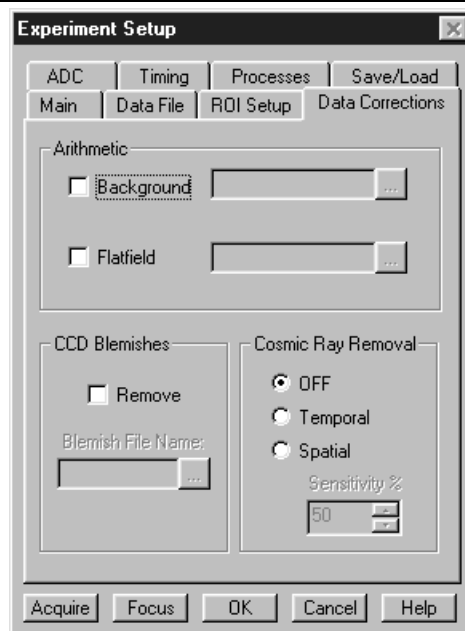

Figure 34. Data Corrections tab page
4. On the **Data Corrections** tab page (Figure 34) all of the correction functions should be OFF.